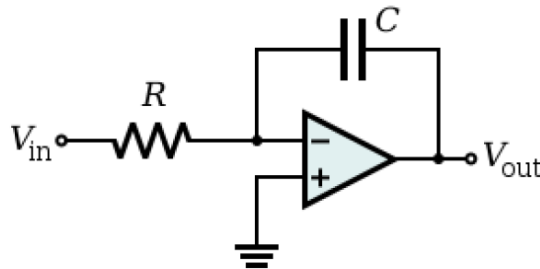

Figure C-2.
*Ideal integrator:* The circuit shown below in Figure C-2 is an *ideal integrating amplifier*. Its behavior is governed